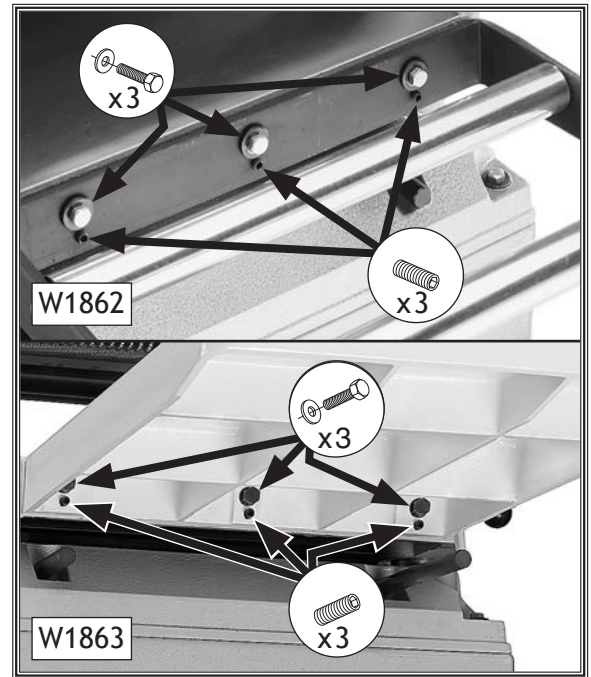

Figure 11. Extension table mounting locations.
1. **W1863:** Attach each cast-iron extension table to planer table with (3) M8-1.25 x 25 hex bolts and (3) 8mm flat washers (see **Figure 11**). Do not fully tighten hex bolts at this time.
W1862: Attach each roller extension table to planer table with (3) M8-1.25 x 20 hex bolts and (3) 8mm flat washers (see **Figure 11**). Do not fully tighten hex bolts at this time.
2. Thread (3) M8-1.25 x 12 set screws into each extension table at locations shown in **Figure 11**.